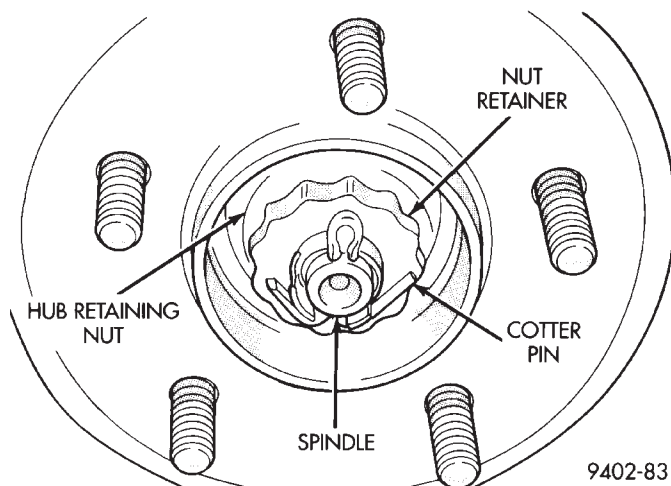

Fig. 66 Rear Hub And Bearing Retaining Nut Removal
- (2) Remove the rear hub and bearing assembly cotter pin, nut retainer, wave washer, hub and bearing retaining nut and the washer (Fig. 66) from rear spindle. Then remove rear hub and bearing assembly from spindle.